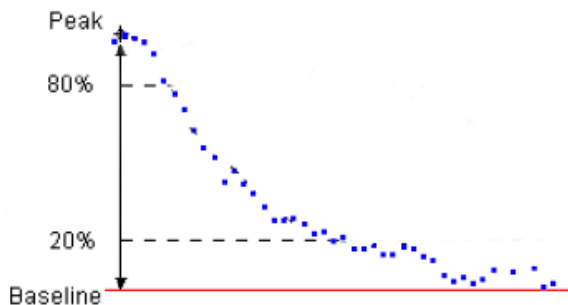

Figure 5-2 Decay slope from 80% to 20%.
- **Decay slope:** The slope, from within the region bounded by the peak and the end of the search region, between the points determined by the associated 'from' and 'to' percentiles. Points to the right of the peak are scanned until points at the nominated percentages of the peak amplitude (relative to the baseline) are found. Regression is applied to these and all intervening points to give the decay slope (see Figure 5-2).